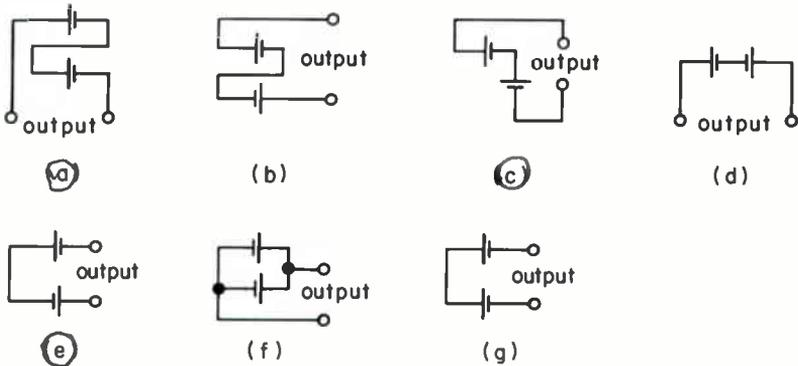

Fig. 15
5. Which of the schematics in Fig. 15 is (are) correct for a series connection of two batteries?